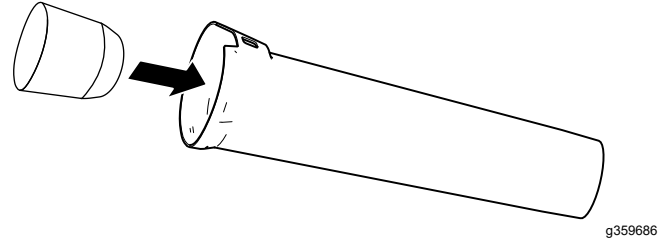

Figure 2
1. Install the blower nozzle into the tube (Figure 2).